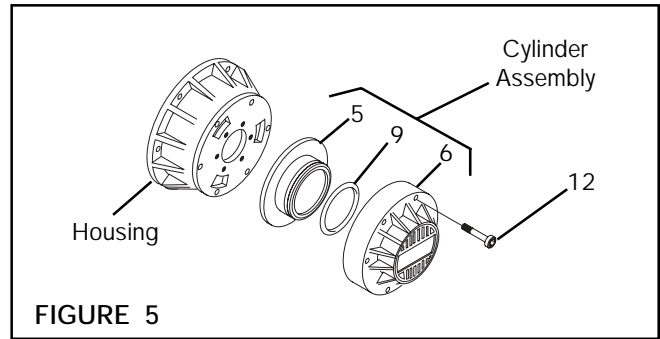

FIGURE 5
1. Alternately and evenly remove the six Socket Head Cap Screws (Item 12) (See Figure 5).
2. Remove the Cylinder Assembly and separate the Piston (Item 5) from the Cylinder (Item 6) (See Figure 5).
3. Remove the old O-ring Seal (Item 9) and clean the O-ring seal contact surfaces with fresh safety solvent (See Figure 5).
4. Lubricate the new O-ring Seal (Item 9) with fresh O-ring lubricant and install the new O-Ring Seal onto the Piston (Item 5) (See Figure 5).
5. Slide the Piston (Item 5) and O-Ring Seal (Item 9) into the Cylinder (Item 6) (See Figure 5).